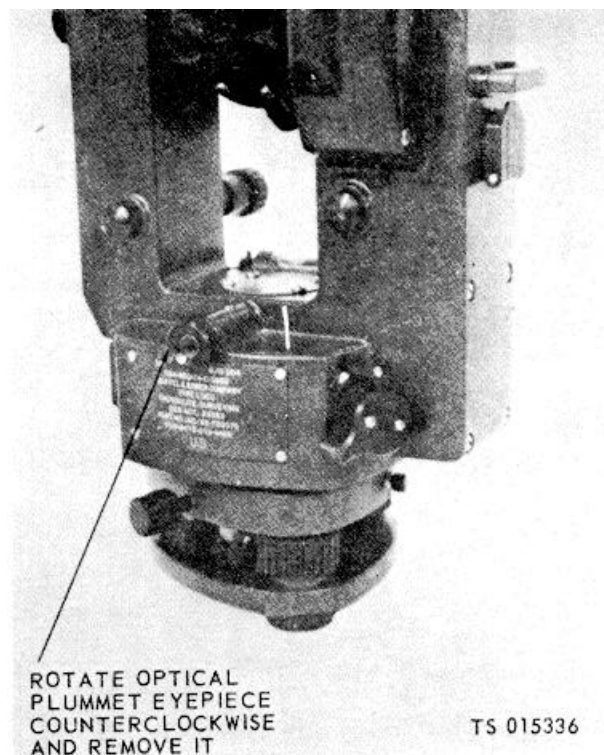

Figure 5-3. Optical plummet eyepiece, removal and installation.
a. Removal. Refer to figure 5-3 and remove optical plummet eyepiece.